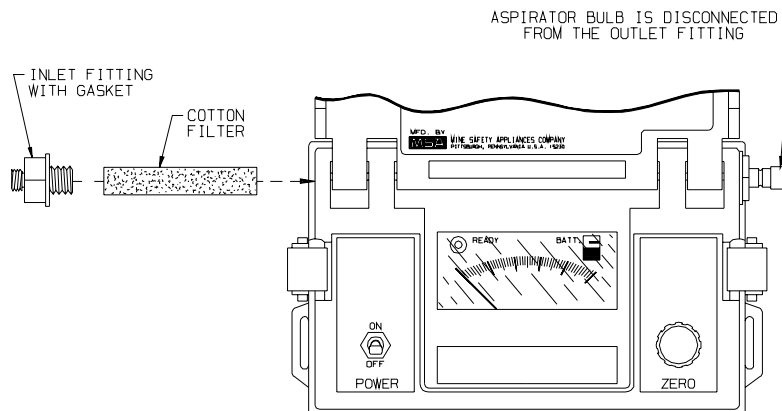

Figure 3-2. Cotton Filter Replacement
- b. Using tweezers, remove the filter (FIGURE 3-2).
22. Place the bottom section of the case on the instrument so its thumbscrews (FIGURE 3-2) are positioned away from the inlet and outlet fittings.